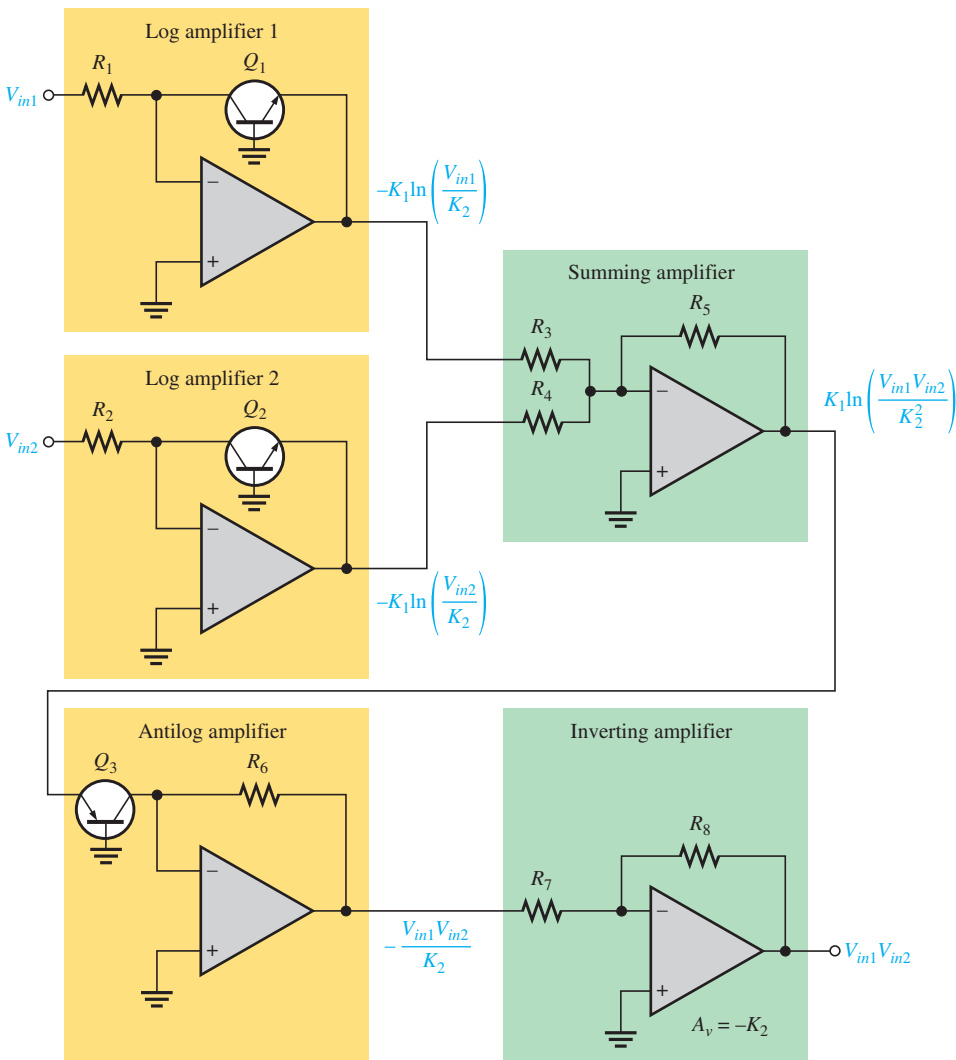

FIGURE 12-34 A basic multiplier.
Figure 12-34 shows the basic multiplier circuitry. The outputs of the log amplifiers are stated as follows:
6. Why does the basic multiplier circuit in Figure 12-34 include an inverter at the end?